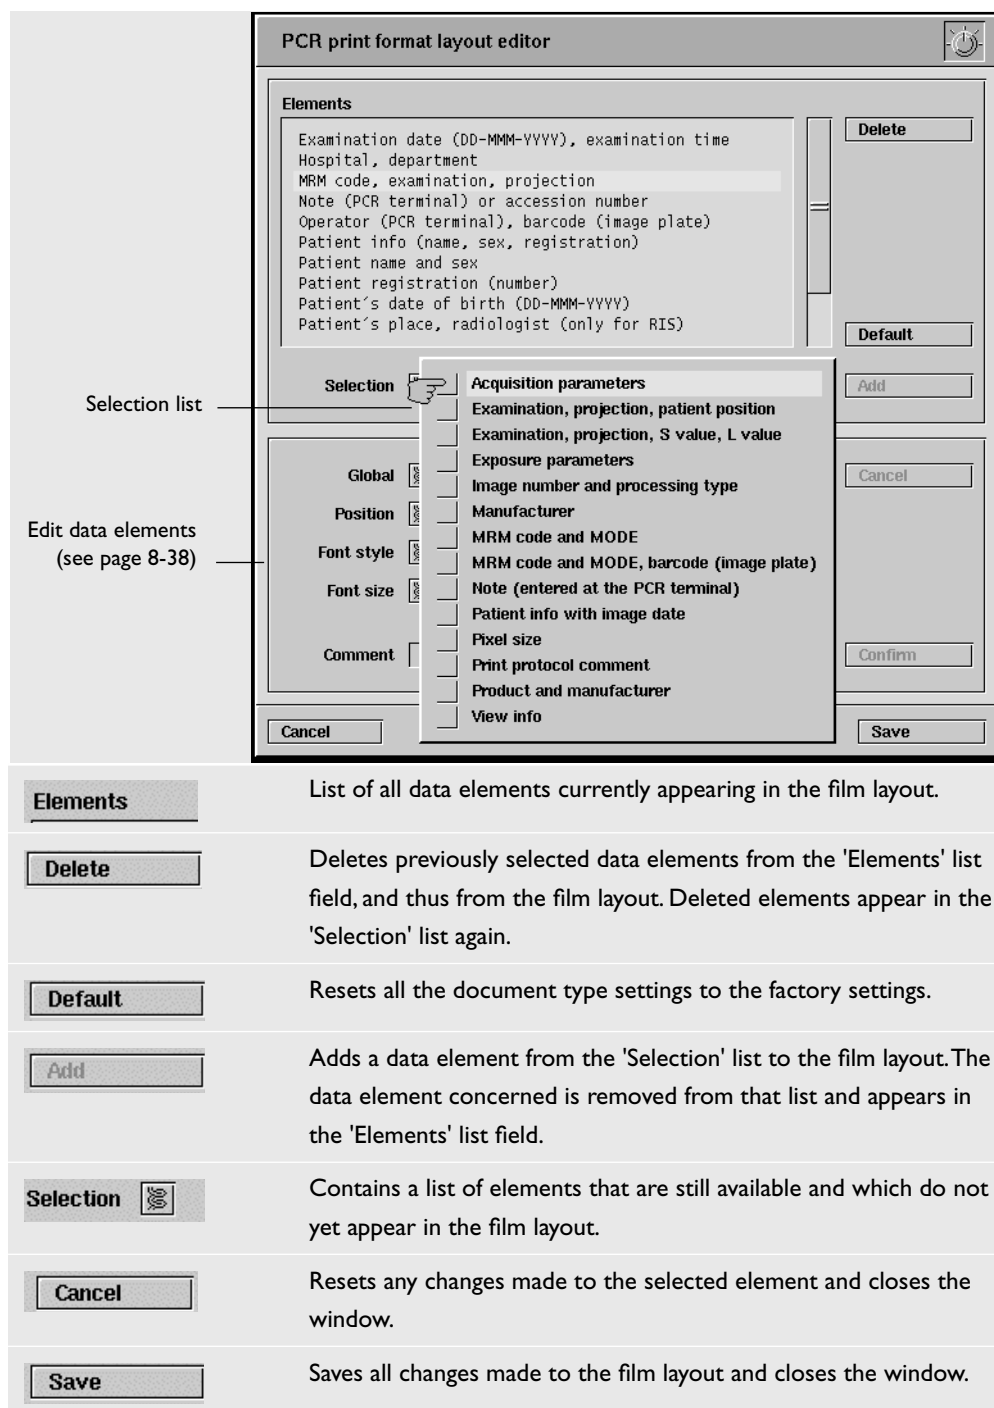

Fig. 8.28 Add/delete data elements
- 1 In the 'Elements' list in the 'PCR print format layout editor' window, choose the data element that you would like to edit (see Fig. 8.28).